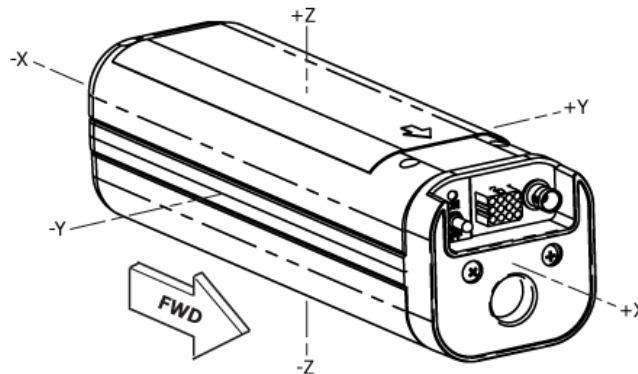

Figure 1 ELT Orthogonal Axes
- 1) The C406-1HM ELT was developed for helicopter installations and features an additional 5-axis G-Switch module, which allows the ELT to be activated in any of the six orthogonal axes. See Figure 1.